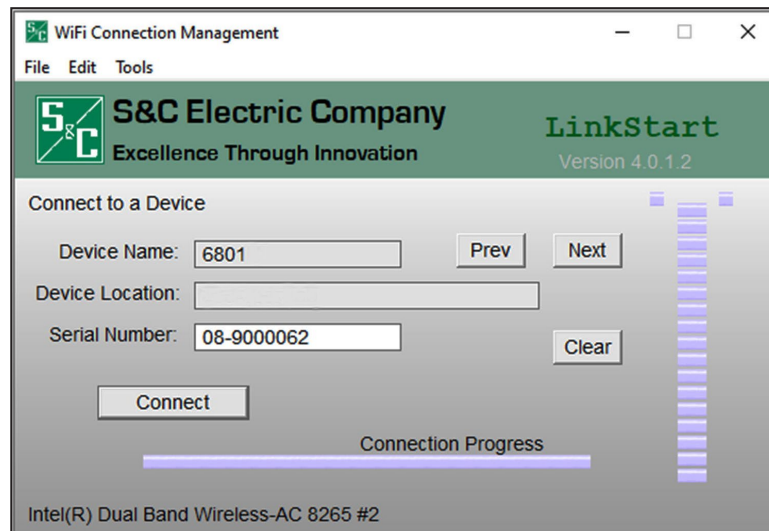

Figure 15. The Wi-Fi connection Management dialog box.
**STEP 4.** For Wi-Fi connections, LinkStart software starts and the device serial number must be entered in the **Serial Number** field. Then, click on the **Connect** button. See Figure 15.